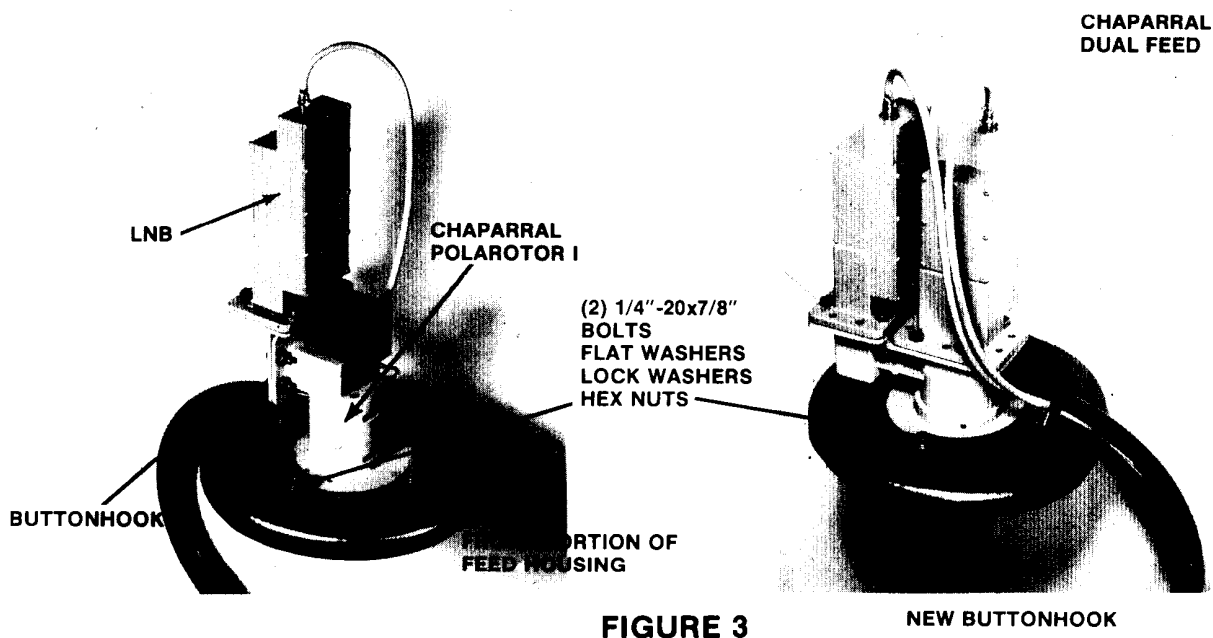

FIGURE 3
STEP 2. Attach the buttonhook to the feedhorn as shown in figure 3 with (2) 1/4"-20x7/8" bolts and tighten securely.